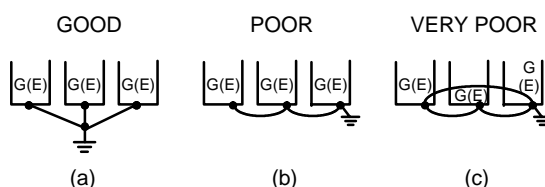

Fig. 4 Grounding of Three SYSDRIVE 3G3IV Units
(1) Ground resistance should be 100Ω or less.
(2) Never ground SYSDRIVE 3G3IV in common with welding machines, motors, and other large-current electrical equipment, or ground pole. Run the ground lead in a separate conduit from leads for large-current electrical equipment.
(3) Use the ground leads which comply with AWG standards and make the length as short as possible.
(4) Where several SYSDRIVE 3G3IV units are used side by side, all the units should preferably be grounded directly to the ground poles. However, connecting all the ground terminals of SYSDRIVE 3G3IV in parallel, and ground only one of SYSDRIVE 3G3IV to the ground pole is also permissible (Fig. 4). However, do not form a loop with the ground leads.